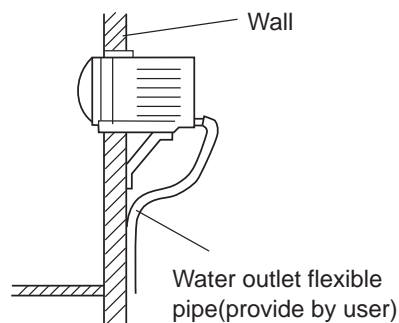

Fig.4
6. After installation of all the accessories, put the whole machine on the iron frame. If there's water outlet flexible pipe, lead the pipe to needed position(see Fig.4).